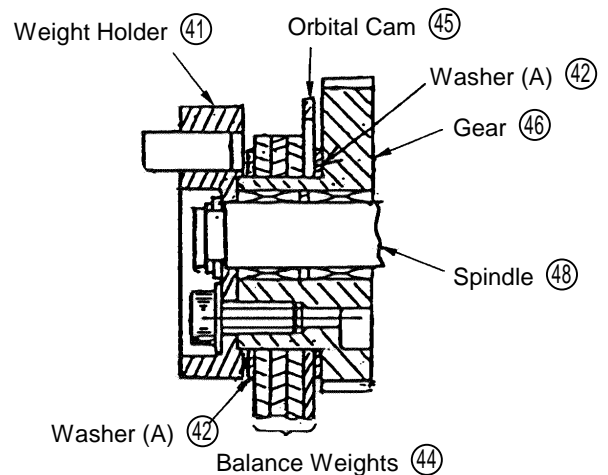

Fig. 15
- (3) Carefully ensure that the two Washers (A) ④②, the Orbital Cam ④⑤, and the three Balance Weights ④④ are assembled as shown in Fig. 15.